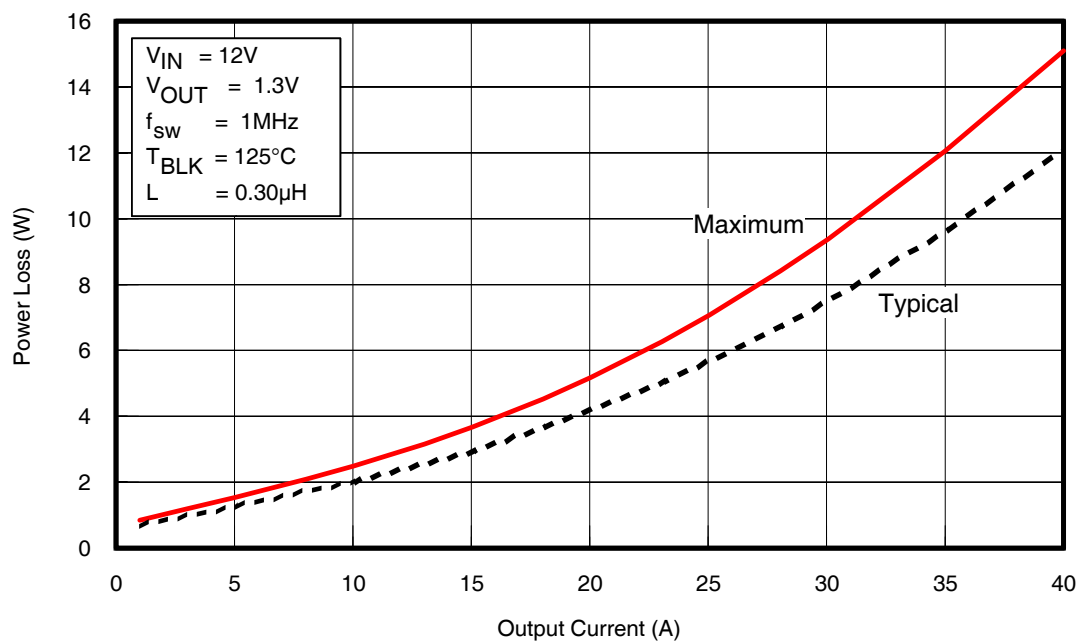
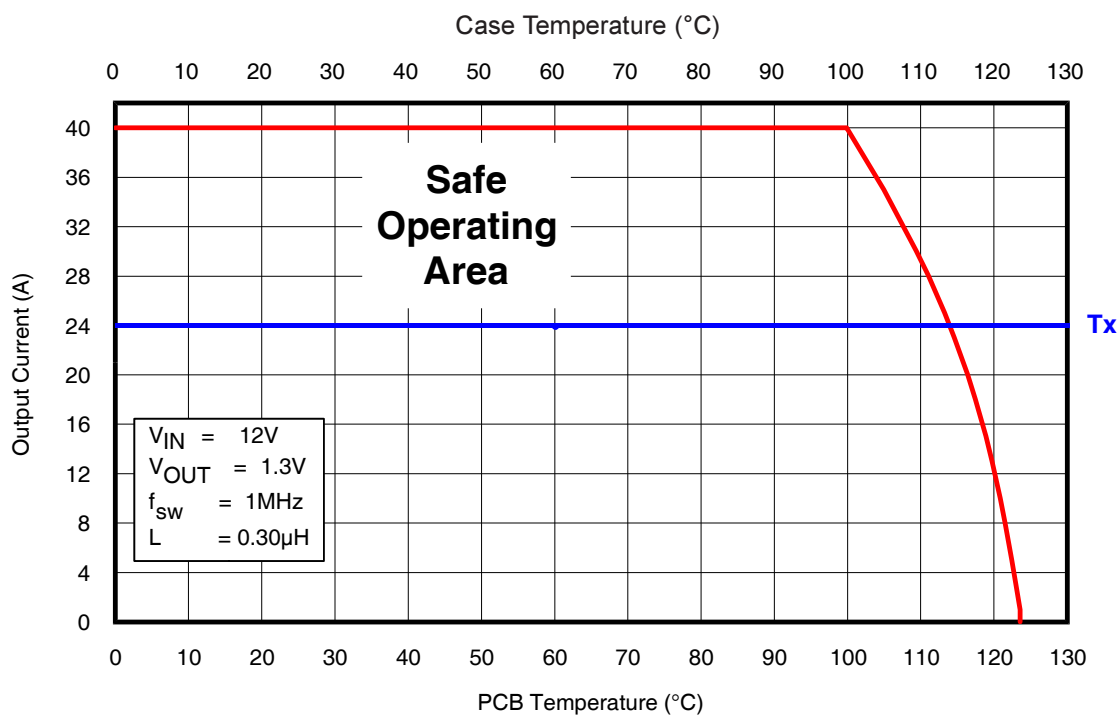
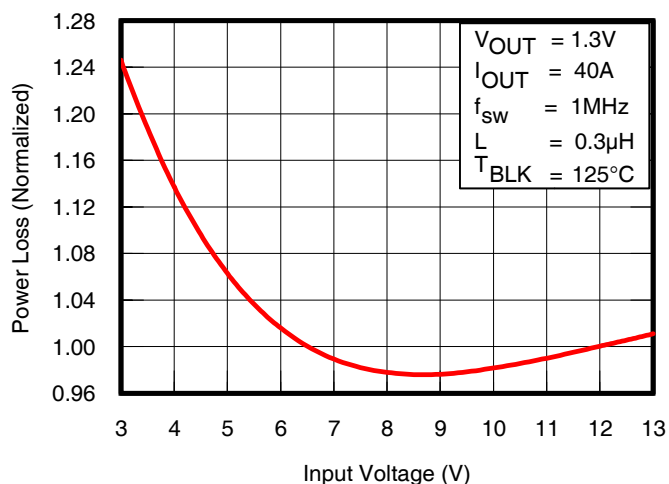

Fig. 1: Power Loss vs. Current
Fig. 2: Safe Operating Area (SOA) vs. T_{PCB} & T_{CASE}
Fig. 3: Normalized Power Loss vs. V_{IN}
To calculate power loss for a given set of operating conditions, the following procedure should be followed: Determine the maximum current for each iP2003 and obtain the maximum power loss from Fig 1. Use the curves in Figs. 3, 4, 5 and 6 to obtain normalized power loss values that match the operating conditions in the application. The maximum power loss under the operating conditions is then the product of the power loss from Fig. 1 and the normalized values.
To calculate the SOA for a given set of operating conditions, the following procedure should be followed: Determine the maximum PCB temperature and Case temperature at the maximum operating current of each iP2003. Obtain the SOA temperature adjustments that match the operating conditions in the application from Figs. 3, 4, 5 and 6. Then, add the sum of the SOA temperature adjustments to the T_x axis intercept in Fig 2.
- (Fig. 1) Maximum power loss = 15W
- (Fig. 3) Normalized power loss for input voltage ≈ 0.98
- (Fig. 3) SOA Temperature Adjustment for input voltage $\approx -0.5^{\circ}\text{C}$